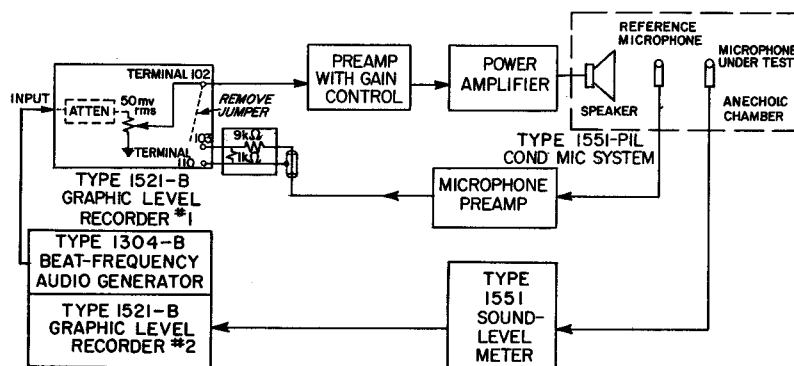

Figure 5.11. Setup for microphone calibration.
The setup for measurement is shown in Figure 5.11 and the equipment is described in Table 5.4. In order to appreciate how the recorder servo controls the sound-pressure level, reread paragraph 1.2. The recorder servo keeps the input to the ac amplifier at a constant level (1 mv when calibrated). When the level changes, the drive coil moves the potentiometer arm until the voltage is again at this level. If the servo loop is broken be-
Type 1521-B Graphic Level Recorder	Recorder No. 1 in Figure 5.11, with 20- or 40-db potentiometer.
Type 1551-P1L Condenser Microphone System	Reference microphone and preamplifier shown in Figure 5.11.
tween the potentiometer arm and the ac amplifier, and two transducers are inserted as shown in Figure 5.11, the servo system will still maintain the constant level into the ac amplifier. Thus the action is as follows:
- Connect the system as shown in Figure 5.11, using the equipment described in Table 5.4. Shielded leads should be used, except from the power-amplifier output to the loudspeaker.